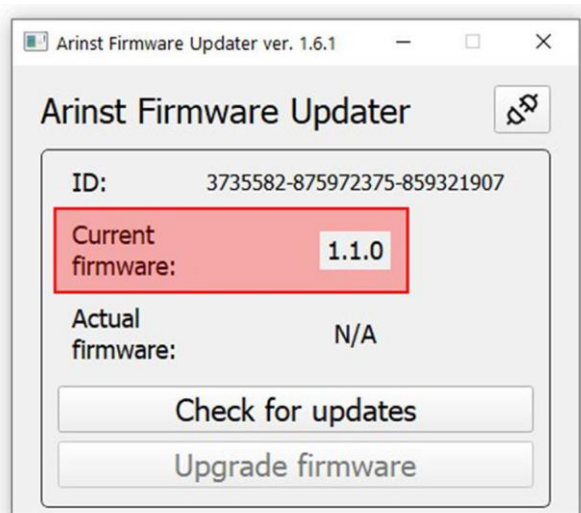

Figure A2.11 - Display of the device firmware version
2.10. After downloading and installing the new firmware, the latest installed software version of the device will be displayed in the loader application (Figure A2.11).